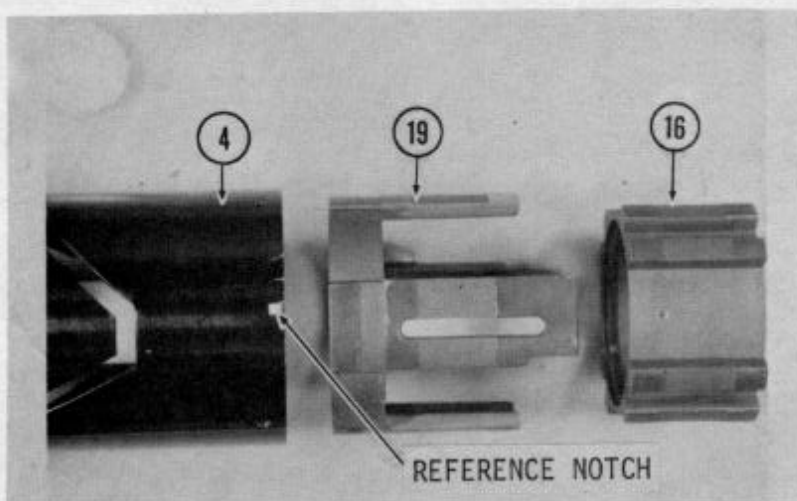

Fig. 11
- 2.1.9 Slide Third Zoom Group Housing (16) and then Second Zoom Group Housing (19) out rear of Lens Barrel. (Fig. 11)
**NOTE:** When reassembling these parts, they must be aligned as shown in Fig. 11; that is, slot in (19) must align with reference notch in (4) and with roller shaft hole in (16).
- 2.3.10.2 Align Second and Third Housings as shown in Fig. 11; slide Third Housing into Second Housing and this in turn into the Lens Barrel.